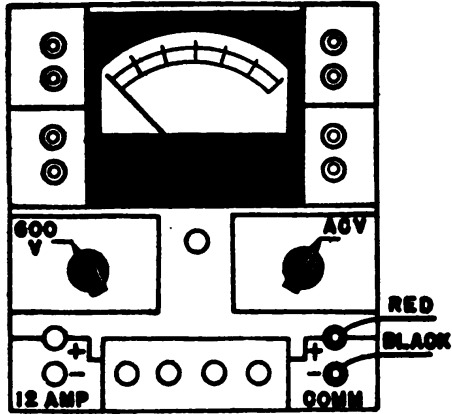

FIG. 5A: 0-3V, 0-12V, 0-60V,
(6) For the 0-6,000 volts range, multiply reading on red 0-60 a-c scale by 100.
b. When using 0-3, 0-12, 0-60, 0-300 or 0-600 a-c volt ranges at 1,000 ohms-per-volt see figure 5A and table I for switch positions, meter scales, and jack connections, and proceed as follows:
- (1) Observe the cautions for voltage measurements.
- (2) Set the circuit selector switch to A.C.V. position.
- (3) Set the range selector switch as follows: